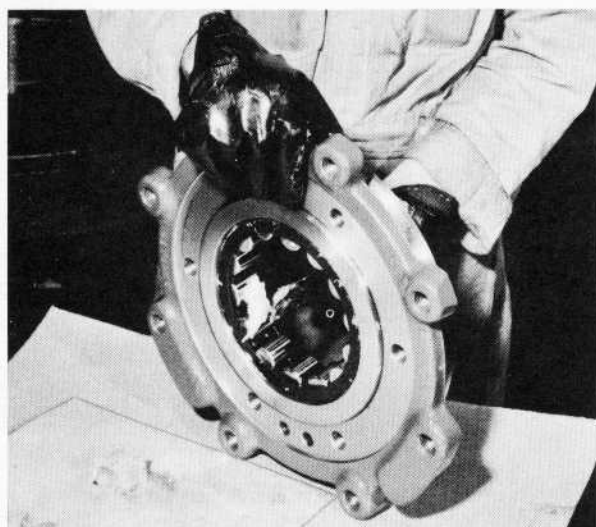

Fig. 10 - Coating I.D. Of Roller And Cage Assembly
- b. Replace roller-cage in outer race, and work grease around I.D. of rollers and into cage pockets, Fig. 10.